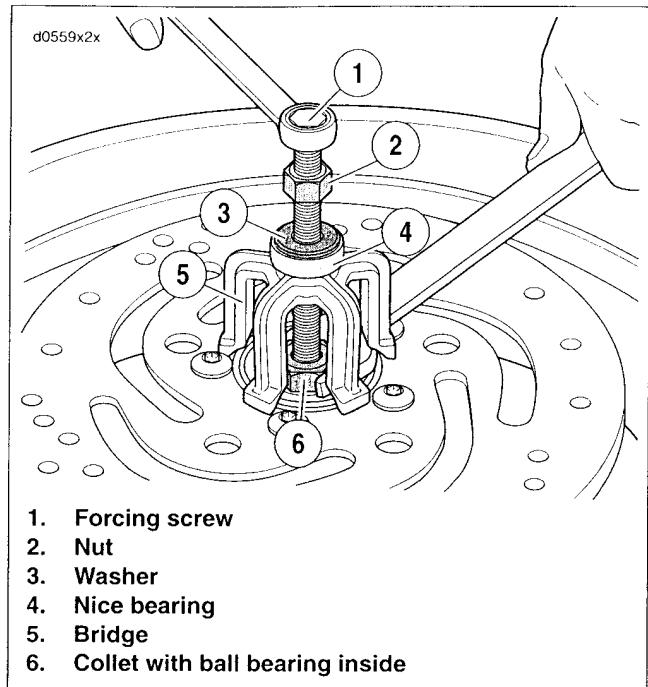

Figure 2-14. Removal Tool
2. See Figure 2-14. Obtain WHEEL BEARING INSTALLER/REMOVER (Part No. HD-44060) and assemble.
- a. Sparingly apply graphite lubricant to threads of forcing screw (1) to prolong service life and ensure smooth operation.
- b. Install nut (2), washer (3) and Nice bearing (4) on screw. Insert assembly through hole in bridge (5).
- c. Drop ball bearing inside collet (6). Fasten collet and ball bearing to forcing screw (1).